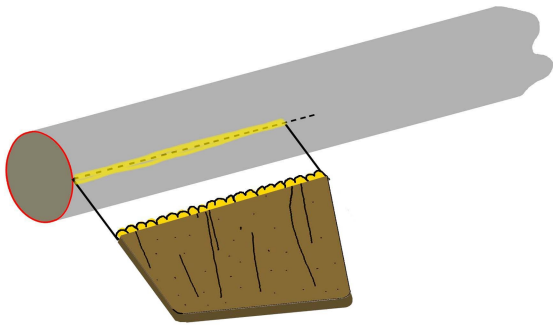

Figure 4
- Step 10** As shown in Fig. 4 above, apply a bead of full-strength glue to the root edge of a fin, and to a fin alignment line on the body tube, directly over the previous layer of glue. This creates what is known as a “double-glue joint”, and is very strong. Press the fin in place with the leading edge touching the line at 1.5”, and the trailing edge touching the rear edge of the tube. Hold this in place for about 15 seconds before releasing. Use a moistened, soft-bristle brush to gently wipe away the excess glue that squeezes out from the joint, and form a smooth fillet. Slide the fin alignment guide down from the top of the tube, over the fin to about half way down its chord, gently aligning the angle of the fin with the one of the slots. Let this dry for about 20 minutes, remove the guide, then repeat this sequence for the remaining two fins.